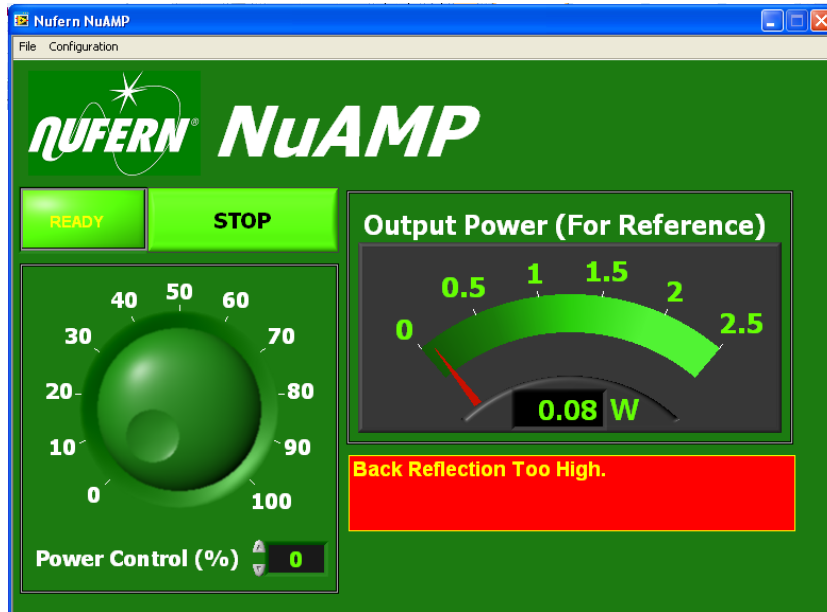

Figure 10: Fault Condition Display
- To change the output power, use either the mouse to rotate the Power Control Dial or type a value (between 0 and 100%) in the input box of the Power Control. If any fault gets triggered during the operation, the amplifier will be disabled automatically and an error message will display in the GUI as shown in Figure 10. Record the error message as a